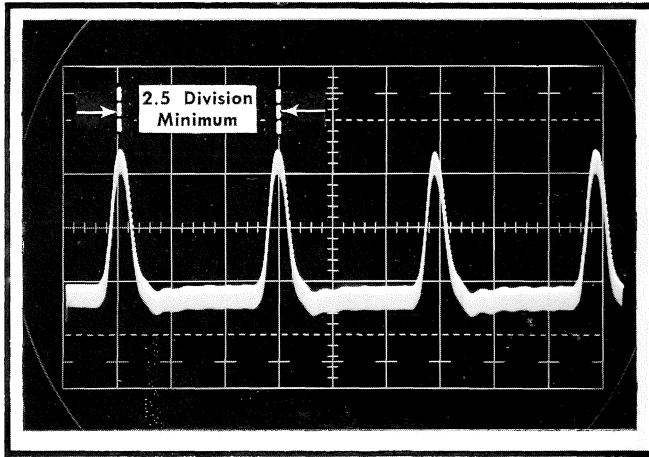

Fig. 7-22. Typical CRT display of time marks for checking Magnifier Variable range.
- c. Check the display for at least 2.5 divisions between the first and third markers; see Fig. 7-22.